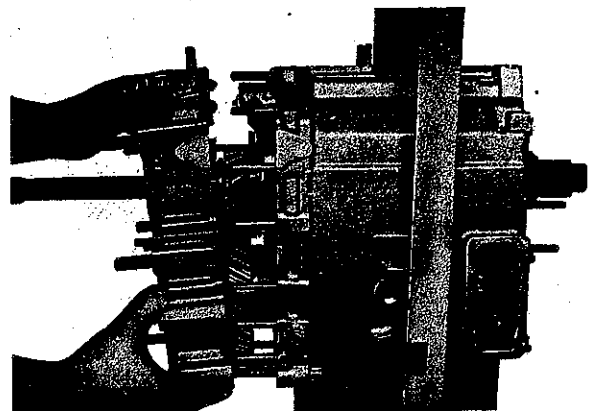

Fig. 11
7.2 Loosen nuts (102) on housing front end (101) and lift off housing front end (Fig. 11).